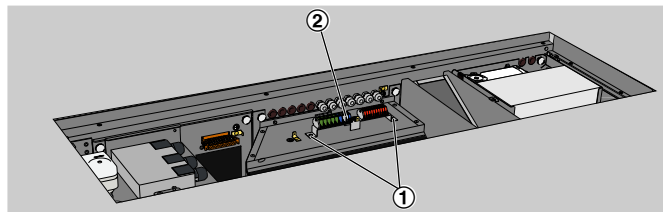

Fig. 27
6. ▶ Loosen the Phillips screws (Fig. 27/1) of the electric terminal holder and put the holder aside.